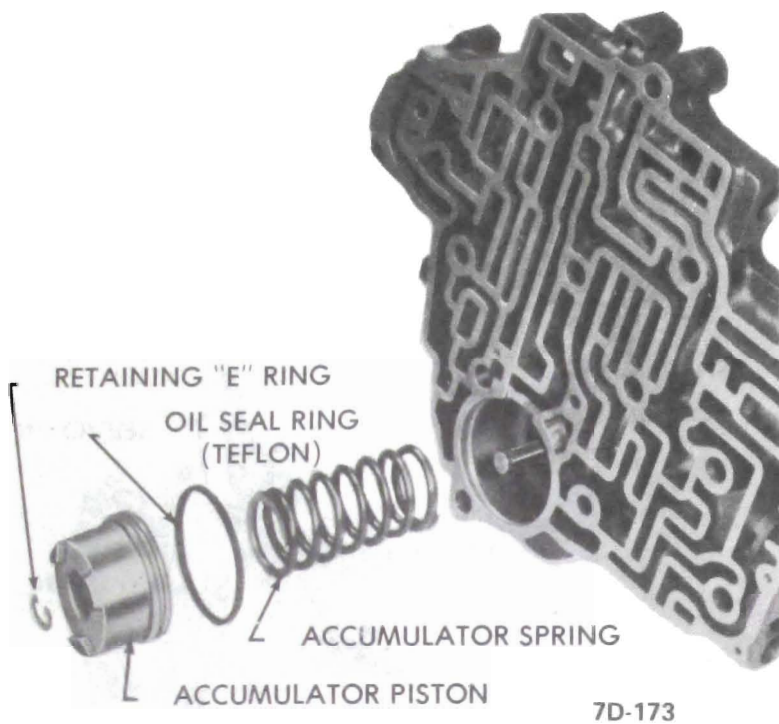

Figure 7D-173
1-2 regulator valve, 1-2 regulator spring, 1-2 detent valve, and 1-2 shift valve. See Figure 7D-312.
6. From the next bore down, remove the retaining pin; 2-3 modulator bushing, and 2-3 modulator valve spring, 2-3 modulator valve, 3-2 intermediate spring and the 2- 3 valve. See Figure 7D-312.